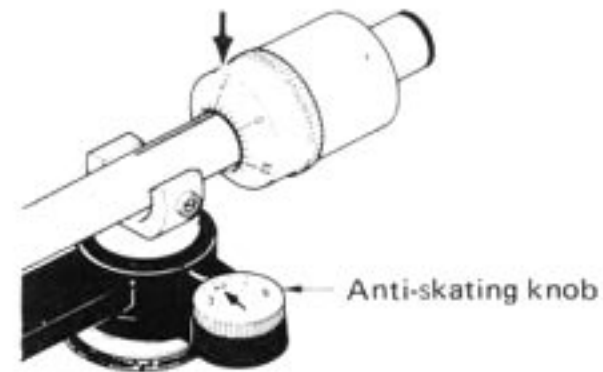

Fig. 10 Stylus pressure and Antiskating set to 2 grams.
- 5) Turn the counterweight to the arrow direction until your desired stylus pressure 2 grams, for instance as in Fig. 10 is set in line with the tonearm reference line. (The counterweight and the stylus pressure scale are coupled with friction to each other so that, when the counterweight is turned, the stylus pressure scale will turn together with it, however contrarily, as the stylus pressure scale is turned, the counterweight will not turn, because the friction between the counterweight and the tonearm body is larger than the friction between the counterweight and the stylus pressure scale.)
Adjust the anti-skating knob until the scale on the anti-skating knob and the pointer indicate the same number as the stylus pressure for the cartridge you are using. Fig. 10 shows the position of the anti-skating knob for a stylus pressure of 2 grams.